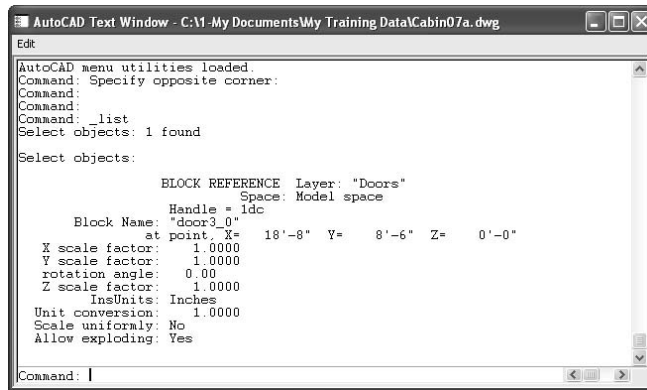

FIGURE 7.12: The AutoCAD Text Window
2. Click the front door block, and then press ↵. The AutoCAD Text Window temporarily covers the drawing (see Figure 7.12). In the Text Window, you can see the words BLOCK REFERENCE Layer: DOORS, followed by 12 lines of text. These 13 lines describe the block you selected.